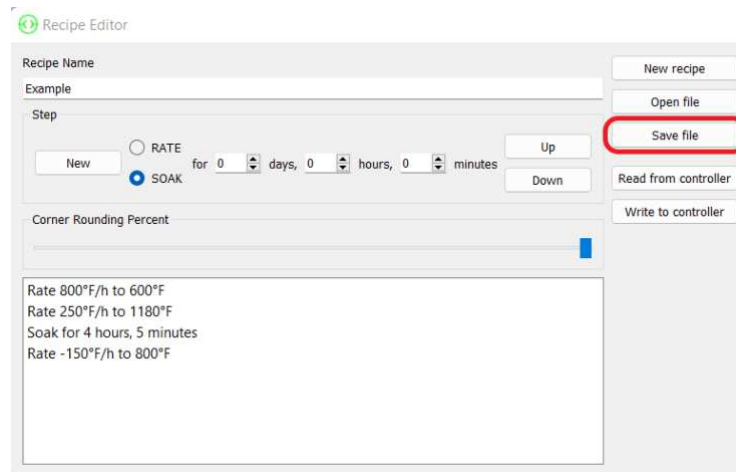

Figure 85: Recipe Editor – 'Save file' button
1. Create a new recipe or read a recipe from a channel to populate the fields of the 'Recipe Editor' window. Once you have a recipe that is satisfactory to you, click the 'Save file' button – highlighted in Figure 85 below – to open the 'File Explorer' window.